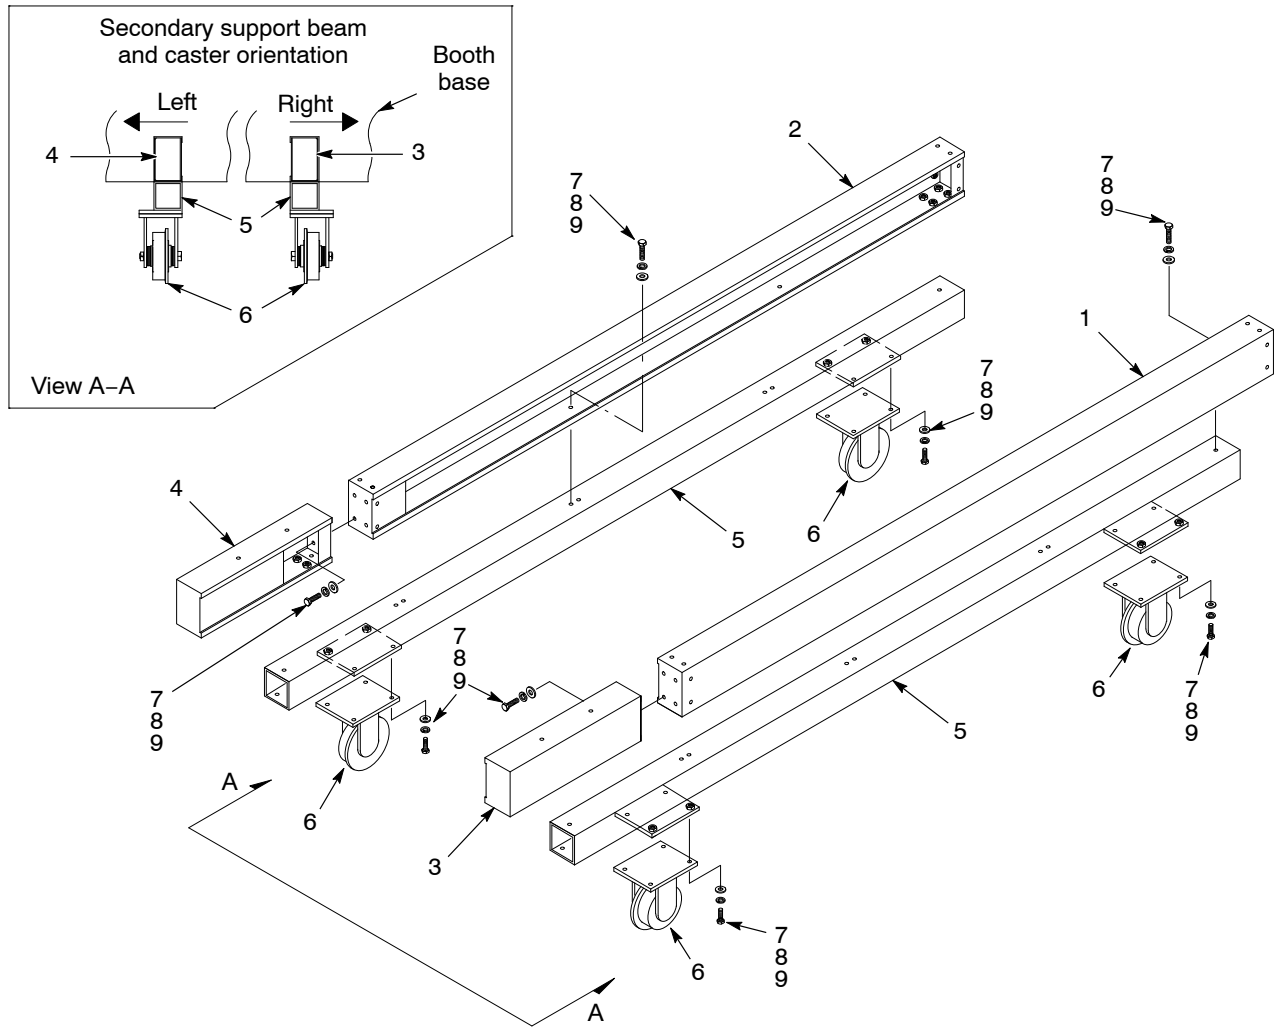

Figure 9-2 Split Support Beam Installation—Roll-On/Roll-Off Booths
See Figure 9-2.
3. Mount the right and left beam extensions (3, 4) to the end faces of the support beams, oriented as shown in Figure 9-2, with eight  $1/2$ -13 UNC cap screws, lock washers, and flat washers (7, 8, 9).
**NOTE:** The casters (6) are shipped installed on the secondary support beams.
5. Install the right and left secondary support beams (5) to the base support beams, oriented as shown in Figure 9-2, with eight  $1/2$ -13 UNC cap screws, lock washers, and flat washers (7, 8, 9).